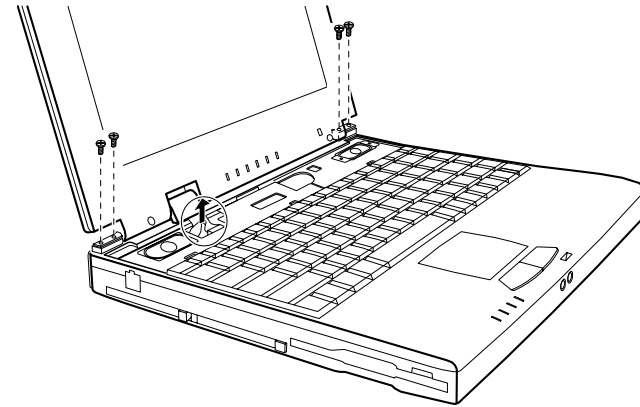

Figure 7-17. Removing the Screws and Unplugging the LCD Cable Connectors
1. Replace four screws, reconnect the LCD cable connectors to the system board and replace the wire cover. (Refer to Figure7-17 )